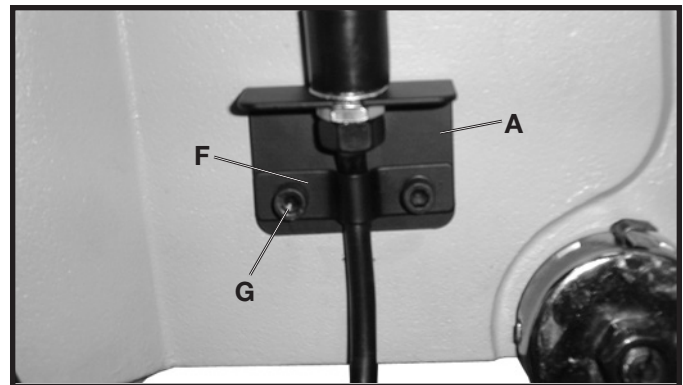

Fig. 18B
21. Align the two holes in the lamp cord bracket (F) Fig. 18B with the two holes in the lamp bracket (A) and drill press head.
22. Place a 1/4" washer onto a M6x1x12mm cap head screw. Insert the screw (G) Fig. 18B through the hole in the cord strain relief bracket and the lamp bracket and thread the screw into the drill press head. Repeat this process for the remaining hole in the cord strain relief bracket and tighten both screws securely.